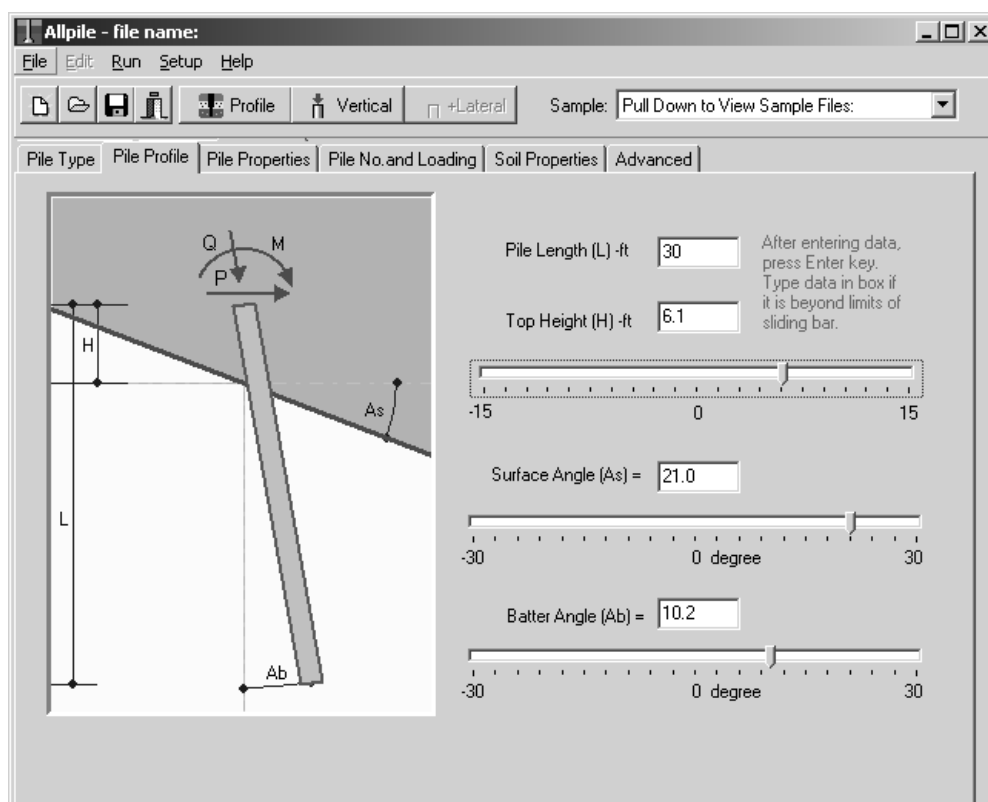
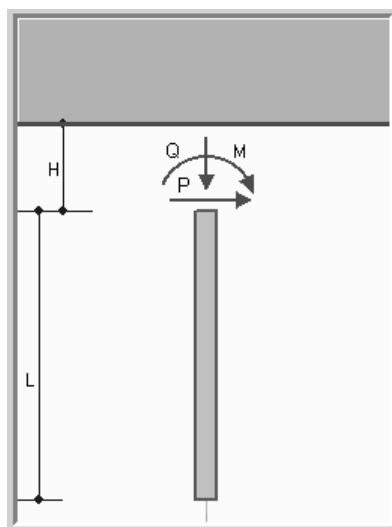

**Figure 4-2.** Pile Profile Input Page ( $H > 0$ )
Figure 4-3. Pile Profile with  $H < 0$
This page presents pile profile information as shown in Figure 4-2. The diagram on the left side reflects the information you input on the right side.
| Top Height (H)     | <p>The distance from the top of the pile to the ground surface. A negative value indicates the pile is buried below the ground surface (see Figure 4-3). The sliding bar can also be used to select the desirable elevation.</p> <p>H is the distance from top of pile to ground surface:</p> <p><math>H &gt; 0</math> Pile top above ground (Figure 4-2)</p> <p><math>H = 0</math> Pile top at ground surface</p> <p><math>H &lt; 0</math> Pile top under ground (Figure 4-3)</p> |